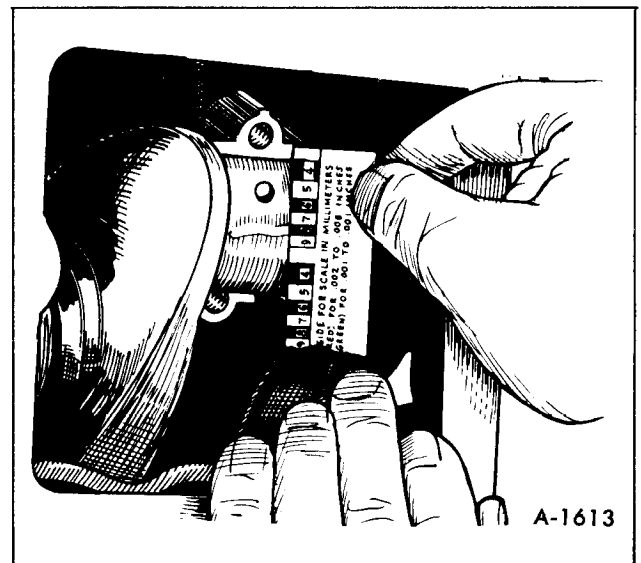

Figure 24—Measuring Bearing Clearance
2. Place a piece of correct size Plastigauge in the bearing cap the full width of the crankshaft rod surface about 1/4 inch off center (figure 24).